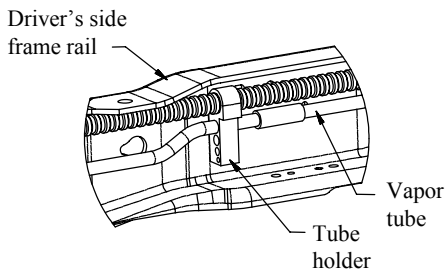
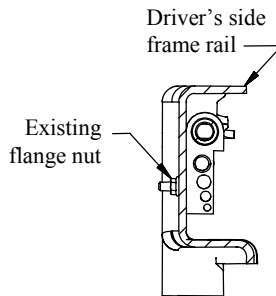

Figure 3a
Figure 3b
2. **On 2005 and up Gas Engine Vehicles Only.** The vapor tube running along the inside of the driver's side frame rail must be relocated prior to installing the driver's side bracket. See Figure 3a. Remove the flange nut from the outside of the frame and keep for later use. See Figure 3b. Rotate the tubes up and out of the way. Install the L-bracket with 1/4" hardware, as shown in Figure 2c. Tighten the L-bracket to the frame, but leave the tube holder loose to aid bracket installation.